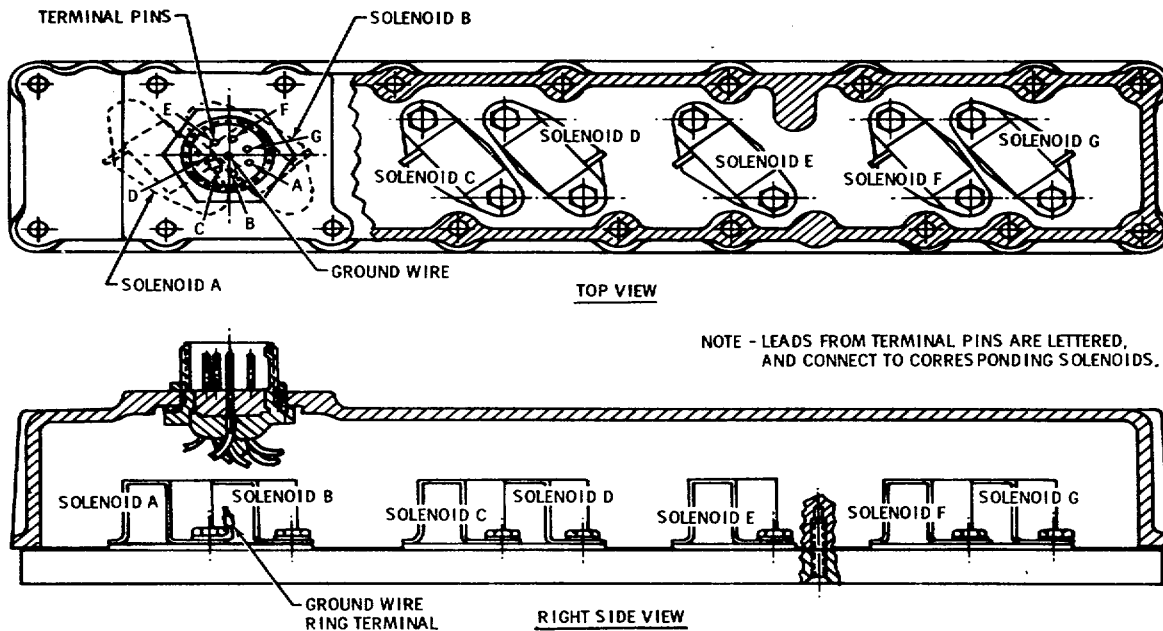

Figure 15-90. Main Valve body Solenoid electrical Connections-Cutaway View
8. Place cover 13 into position near plate 15 and connect the wiring harness ground terminal by installing the remaining bolt 1 7 and lockwasher 16 into solenoid A (Figure 15-90). Tighten the bolt to 9-11 lb ft (12.2-14.9 N.m).
9. Connect the seven wiring harness leads to the seven solenoid leads as shown in Figure 15-90. Recheck the lead connections to ensure they are correct. Bind each of the seven leads to the solenoids, using elastic rings (B, Foldout 9).
4. Install seven solenoids 78(B, Foldout 9), and retain them with thirteen bolts 17 and lockwashers 16. Leave one bolt 17 and lockwasher 16 out of solenoid A (Figure 15-90) until the ground wire terminal is installed. Refer to step 9.